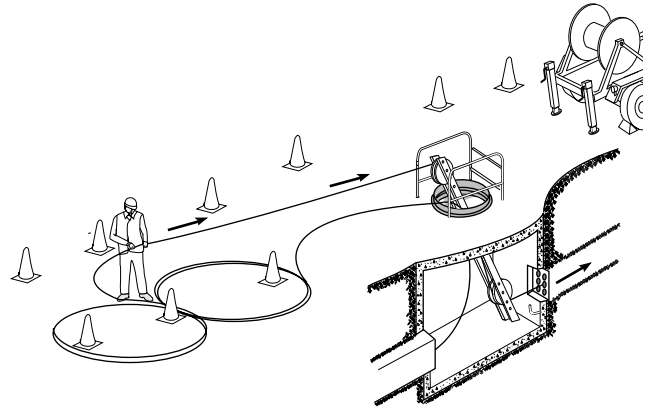

Figure 14 Completion of center pull operation
5.8 Pull the exposed end of the cable in the opposite direction to complete the pull. Hand tending of the cable paying off from the "figure-eight" is normally required (Figure 14).